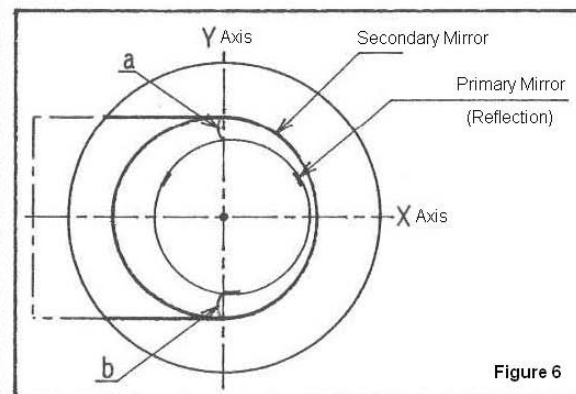

Figure 6
- 8 Rotate the secondary mirror holder so that each of distances "a" and "b" becomes equal shown in the Figure 6. Now fix the secondary mirror holder tightly.